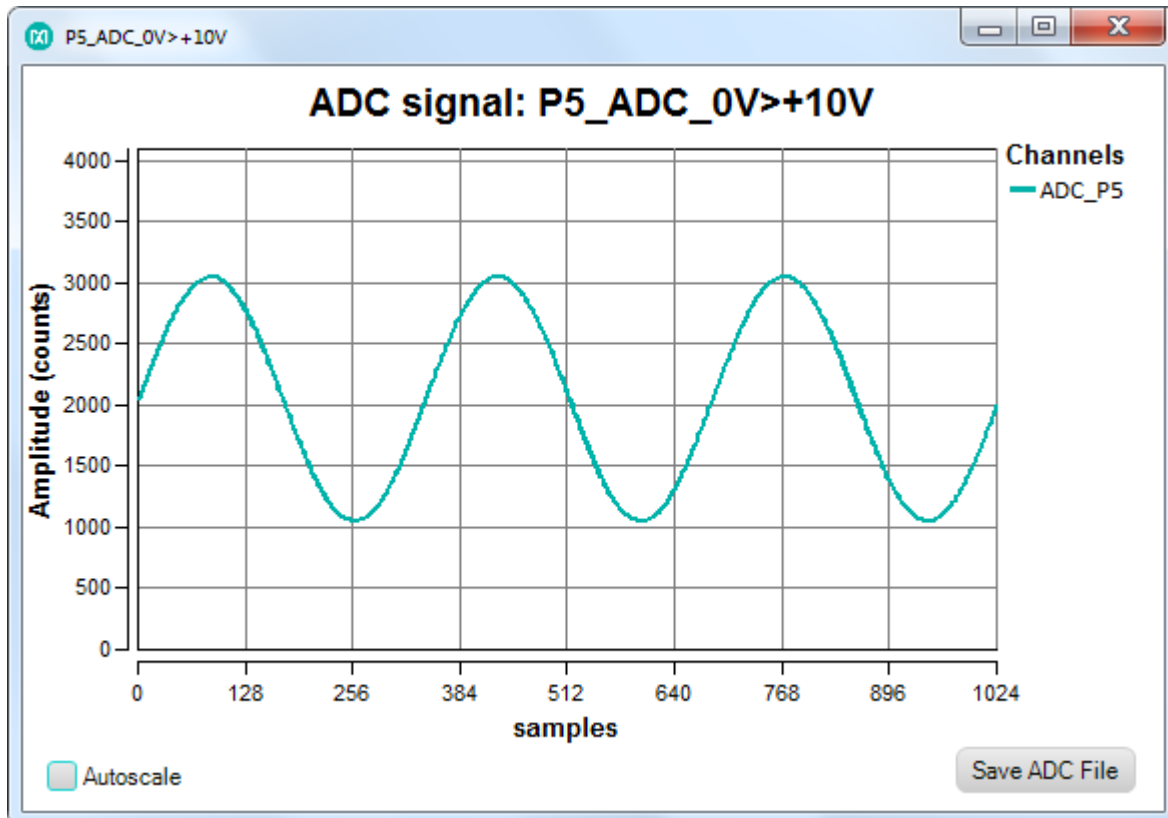

Figure 26. Sine wave with 170 μ s sample delay.
- After connecting the DAC to the ADC, observe a sine wave in the ADC plot window as shown in **Figure 26**. Since the DAC can sample 20ksps only, but the ADC can sample 400ksps, the multiple data points are written to the DAC before the DAC can accept a new data point. To allow ample time for the DAC to settle before writing a new value, insert a sample delay between each sample by selecting 10 μ s or more in the **Sample delay** drop-down menu. We add 170 μ s sample delay here.